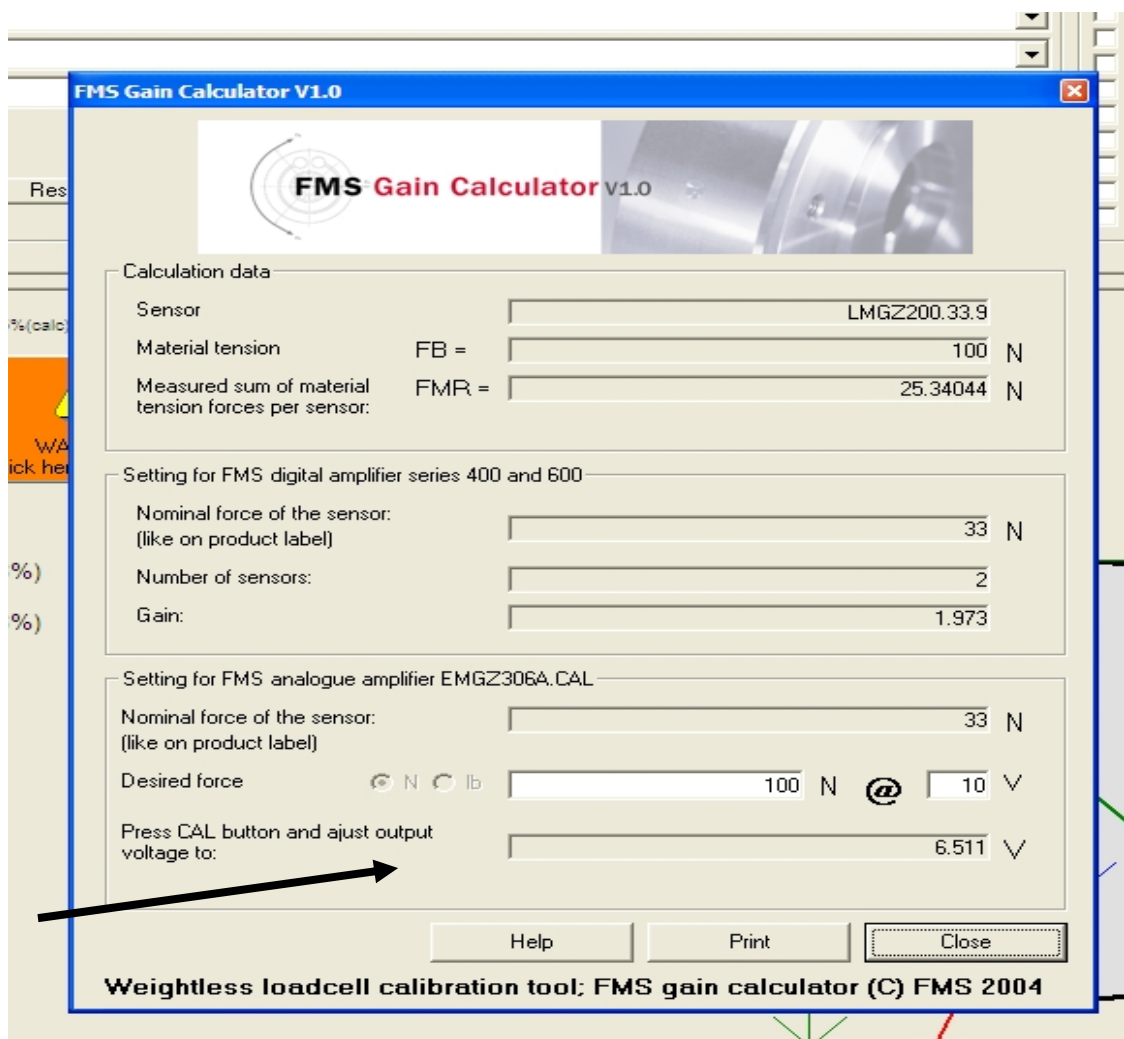

Fig. 10: Output screen of the gain calculation tool of the FMS calculator E3060_gain1.jpg
5. The output voltage values for calibration is given in the result screen (see Fig.10)